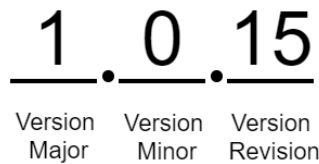

Figure 5-2: Example FW Version Format
- Bits 32 to 55 of the value contain the application revision numbers which define the FW version. The FW version is reported in the format as shown in Figure 5-2, which is shown using the example FW v1.0.15 (value 0x 01 00 0F).
- Bits 8 to 31 of the value contain the LoRaMAC version numbers. The format is the same as shown in Figure 5-2. This number is not to be confused with the LoRaWAN specification version according to the LoRa Alliance standards. The LoRaMAC version number is the version of the LoRaMAC layer of the FW developed by TEKTELIC.
- Bits 0 to 23 of the value contain the BLE stack version numbers. The BLE stack is the SW published by Bluetooth and not developed by TEKTELIC. The version is reported in the format as shown in Figure 5-2.